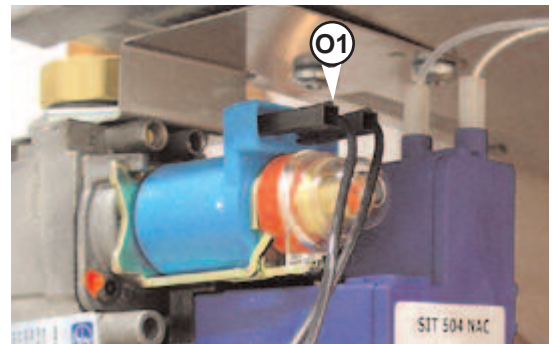

Fig. 18.44
3. Disconnect the wires from the modulator coil "O1"(see Fig. 18.44) ;